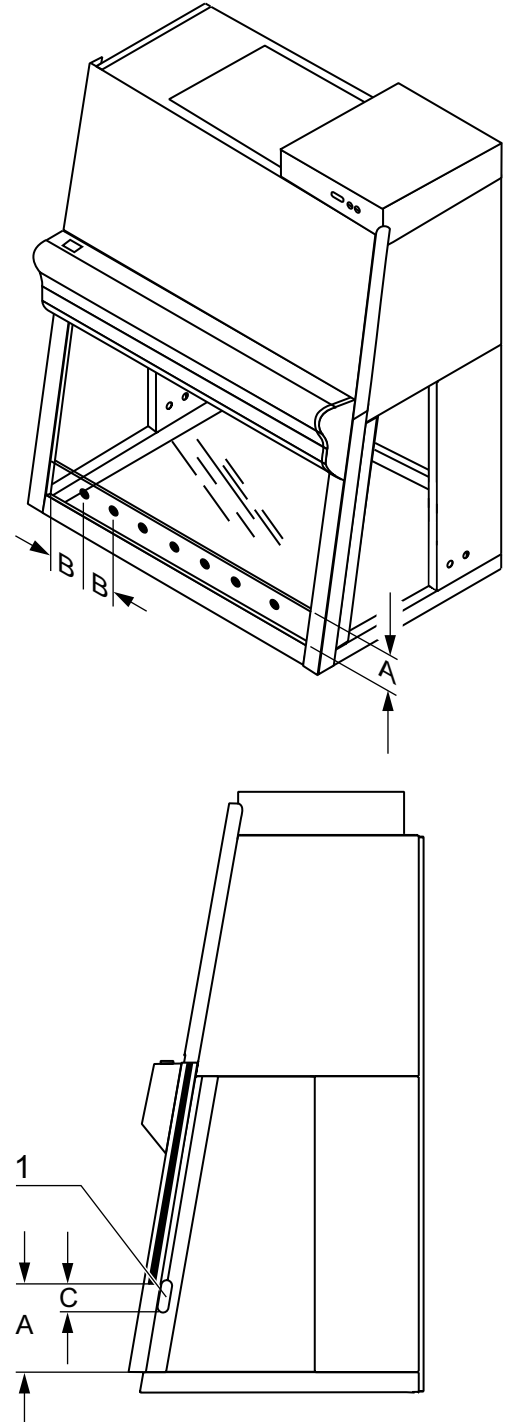

Fig. A4,
**Fig. A4:** The inflow velocity is measured at several measuring points in the work aperture. For this purpose, the front window is moved up to height **A** = 7.6 cm (3 in.). The anemometer is installed directly to the inside of the work aperture front window. The measuring points are located at distance **C** of 3.8 cm (1.5 in.) immediately at the inside of the front window lower edge and at distance **B** of 10 cm (3.9 in.) to each other. The lateral distance to the work aperture edges is also 10 cm (3.9 in.).